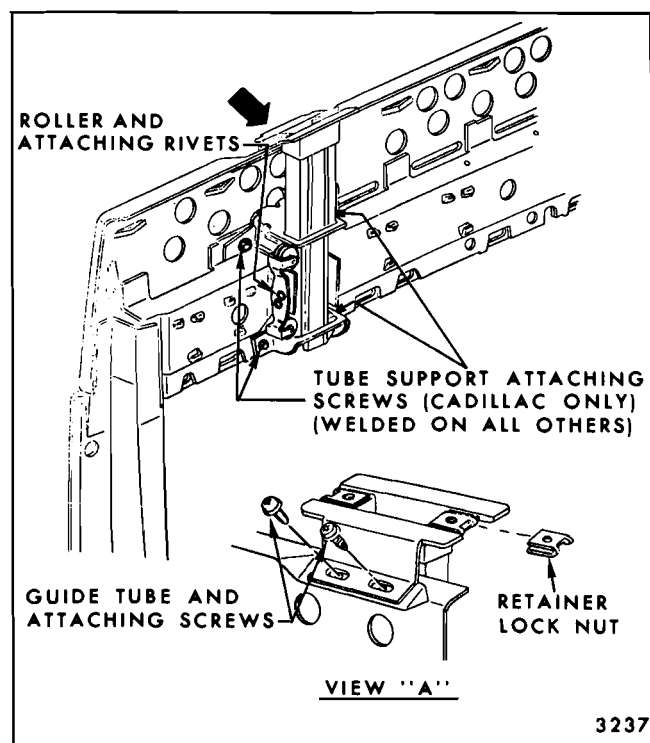

Fig. 15-37—Head Restraint Guide Tube and Roller Typical of All Standard Seats Except Cadillac
3. Remove two screws securing guide tube (Fig. 15-37) and slide guide tube out of support.
4. To remove guide tube support assembly, which includes roller on Cadillac styles, remove guide tube support attaching screws (Fig. 15-37) and remove support assembly.
5. To remove roller assembly on styles except Cadillac and "F" body type seats, carefully knock out two rivets securing roller assembly to support (Fig. 15-37) and remove roller assembly.